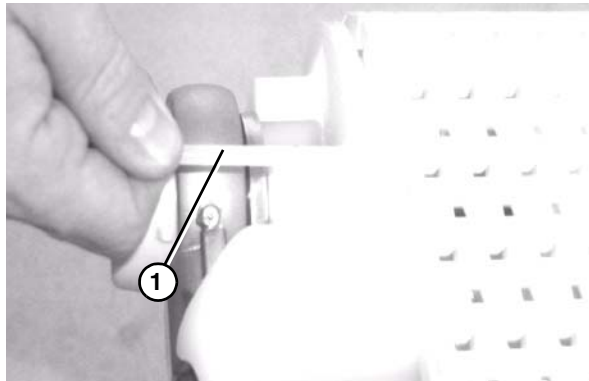

Figure 35
4. Insert the belt rod (Figure 35, item 1).